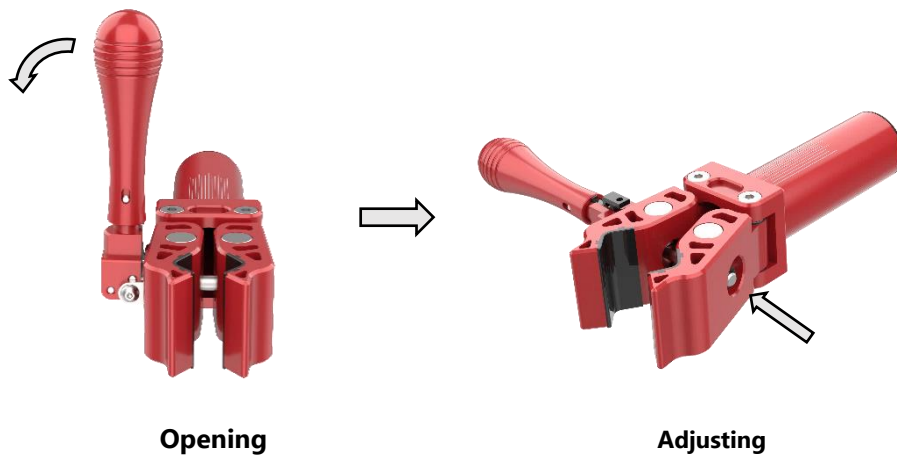

Figure 21. Opening and adjusting the width of the Clamp Jaws.
- Close the Clamp Jaws and then adjust the Clamp Jaw Tensioning Nut (see "Figure 21. Opening and adjusting the width of the Clamp Jaws") to 8 Nm Torque (example) or whatever the User is able to comfortably manage. If the User is unable to close the clamp with the Clamp Jaw Tensioning Nut set at 8 Nm of torque, then an Auto Clamping model is indicated.